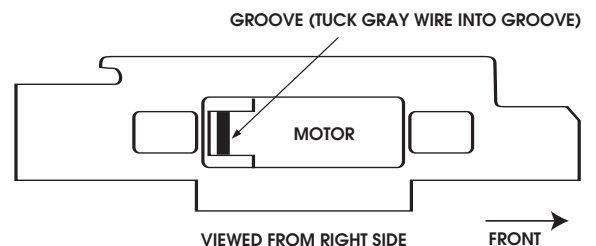

Fig. 5
■ Your decoder and motor are now ready to be installed into the Track Master frame. With the right mainframe laid out in front of you (front to your left) install the motor with GRAY wire down. Fit GRAY wire in the groove cut in motor (Fig 5). Make sure light boards are installed with resistor side up. Be sure brush holders are not touching frame.